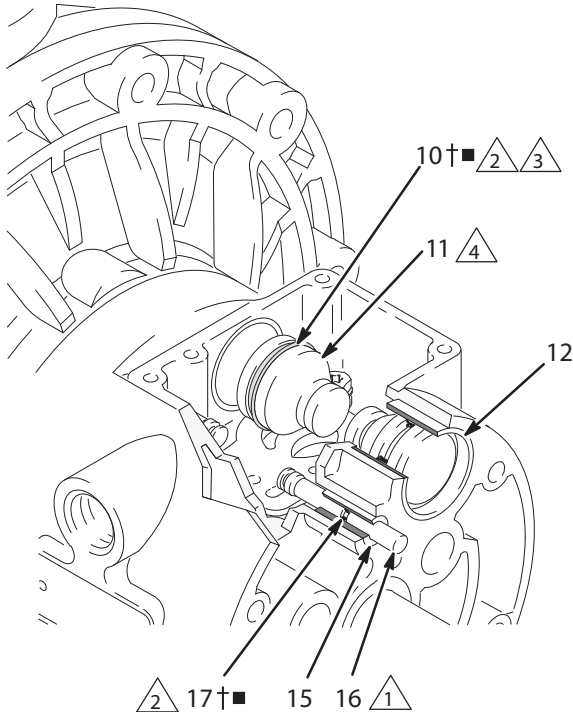

Fig. 9
4. Pull the two actuator pistons (11) out of the bearings (12). Remove the u-cup packings (10†) from the pistons. Pull the pilot pins (16) out of the bearings (15). Remove the O-rings (17) from the pilot pins. See Fig. 9.
6. Inspect the bearings (12, 15) in place. See Fig. 9. The bearings are tapered and, if damaged, must be removed from the outside. This requires disassembly of the fluid section. See page 23.
4. Install an O-ring (17†■) on each pilot pin (16). Grease the pins and O-rings. Insert the pins into the bearings (15), **narrow** end first. See Fig. 9.
5. Install a u-cup packing (10†■) on each actuator piston (11), so the lips of the packings face the **narrow** end of the pistons. See Fig. 9.
6. Lubricate the u-cup packings (10†■) and actuator pistons (11). Insert the actuator pistons in the bearings (12), **wide** end first. Leave the narrow end of the pistons exposed. See Fig. 9.